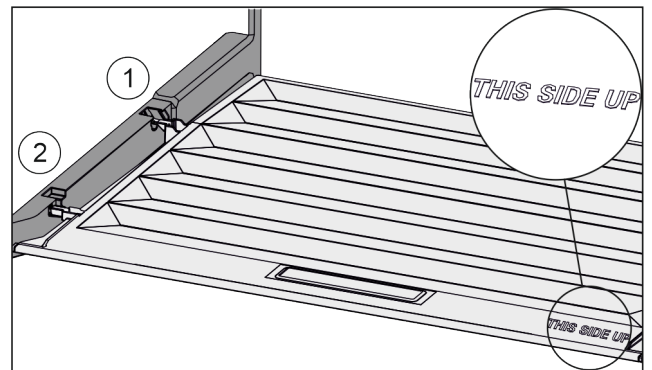

*Fig. 80*
- ▶ Pull the lid up at the front to the opening in the retaining parts *Fig. 80 (1)*.
- ▶ Lift from the back and pull it up and out *Fig. 80 (2)*.